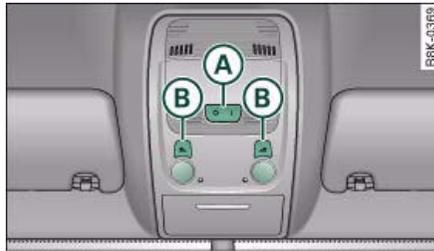

Fig. 62 Headliner:
The rocker switch (A) ⇒ fig. 62 for the interior light has the following functions:
- Press one of the switches (B) ⇒ fig. 62 to switch the left or right reading light on and off.